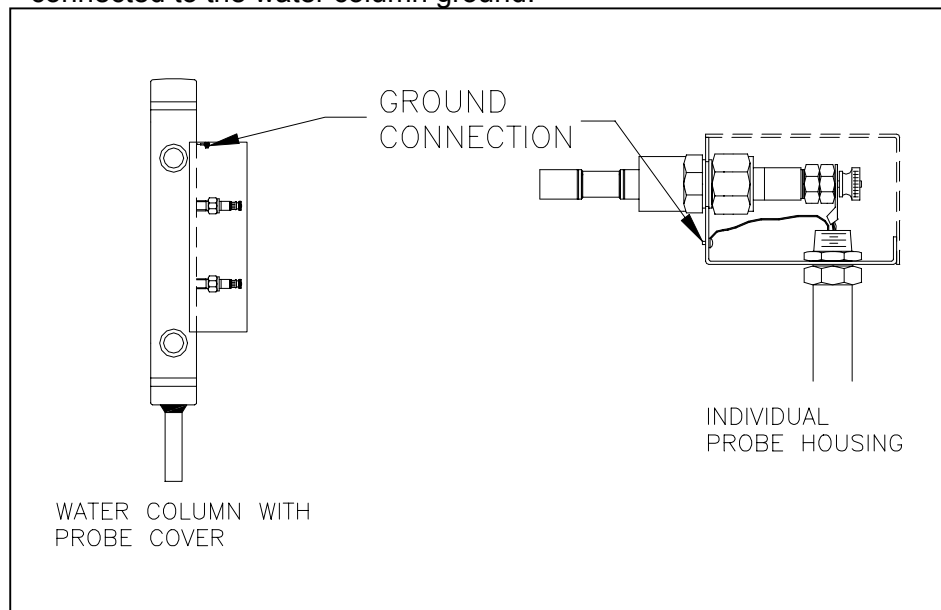

Figure 2 - Ground connection location
2.5 Probe Housing (refer to Fig 2)
2.8.1 At the Probe (refer to Fig 2)
A 24 Vac RMS symmetrical sine wave from the circuit power supply is connected through a resistor to the probe terminal (pin #8 of the socket, see Figure 2) .When the probe tip is immersed in water, a signal current bleed path to ground is completed by the conductivity of the water. This creates sufficient voltage drop to turn a depletion MOSFET transistor “ON”, the red LED turns on indicating water detection and the relay is energized.
Control Relay:	Refer to section 2.5.3 and Figure 2